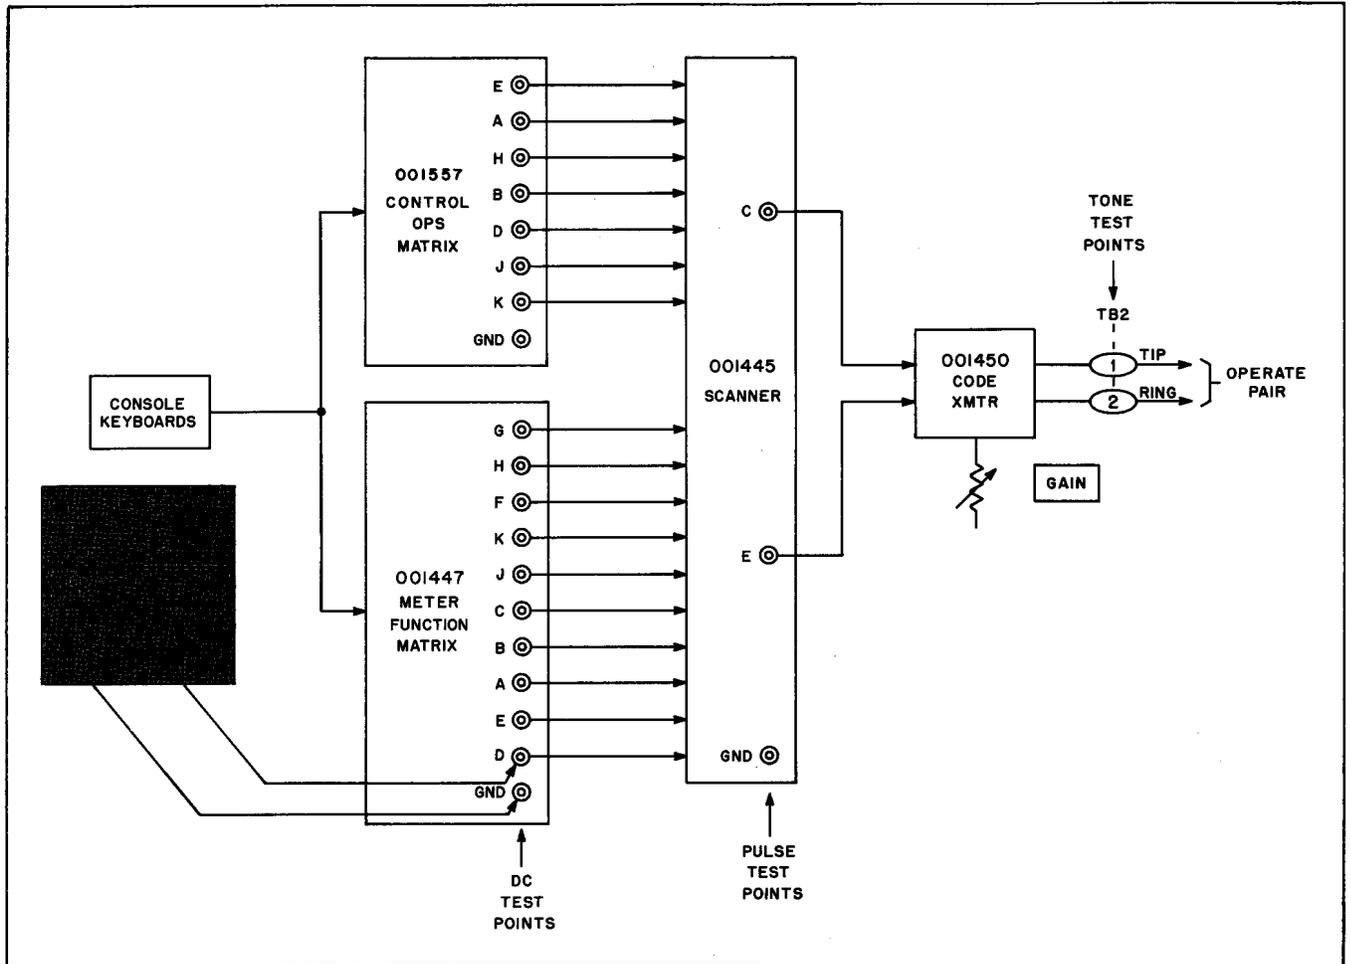

Figure 7 - Block Diagram of Components Comprising Master Station's Code Channel
3.05 CODE CHANNEL - Figure 7 is a block diagram of the components comprising the master station's code
6. Using a 20,000 ohm/volt d-c voltmeter, check the scanner inputs for proper coding, as described in Table 2. Make the measurements at the indicated d-c test points on the two matrix cards (001557 and 001447), referencing each measurement to GND. (See the typical voltmeter connection in Fig. 7.) A reading of +0.2 to +0.8 VDC represents a logic 0; +3.5 to +5 VDC, a logic 1. Make certain that on the console the correct pushbutton is pressed. Improper readings indicate replacement of Card 001557 or Card 001447.